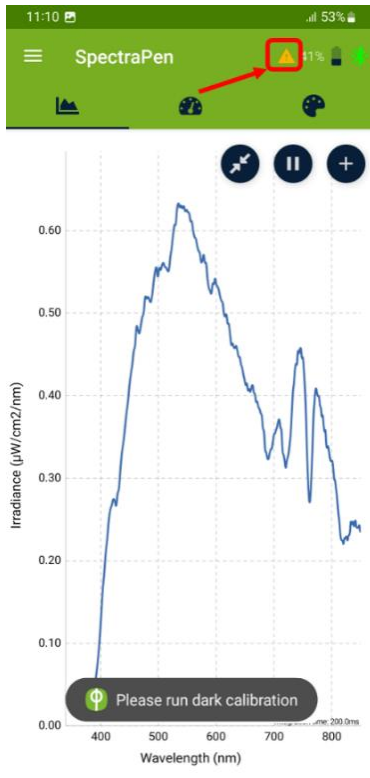

Fig. 4 Device is not calibrated.
- After connecting the device, a request for dark calibration will appear. The warning sign in the right corner indicates an uncalibrated device (Fig. 4) and the readings may not be accurate.